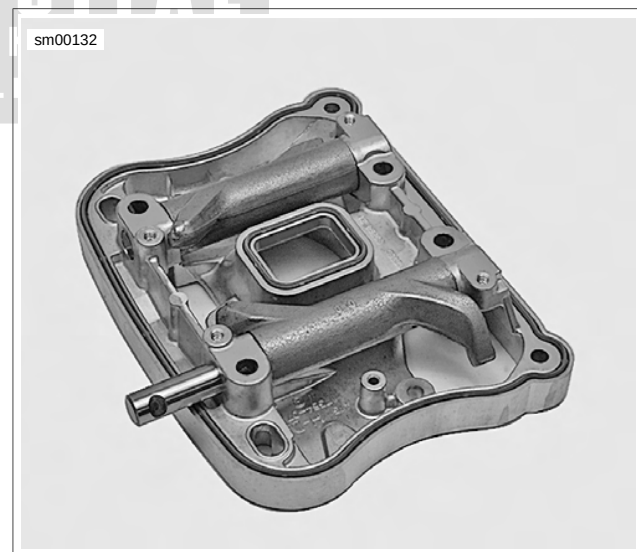

Figure 3-44. Removing Rocker Arm Shafts
8. See Figure 3-44. Remove rocker arm shafts by tapping them out using a hammer and a soft metal punch.